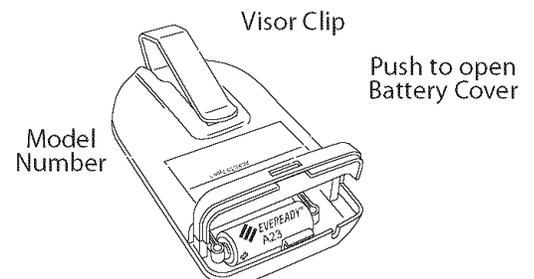

Figure 39 Remote Control Battery Replacement
- A** Push in on Battery Cover Latch at base of Remote Control (**Figure 39**):